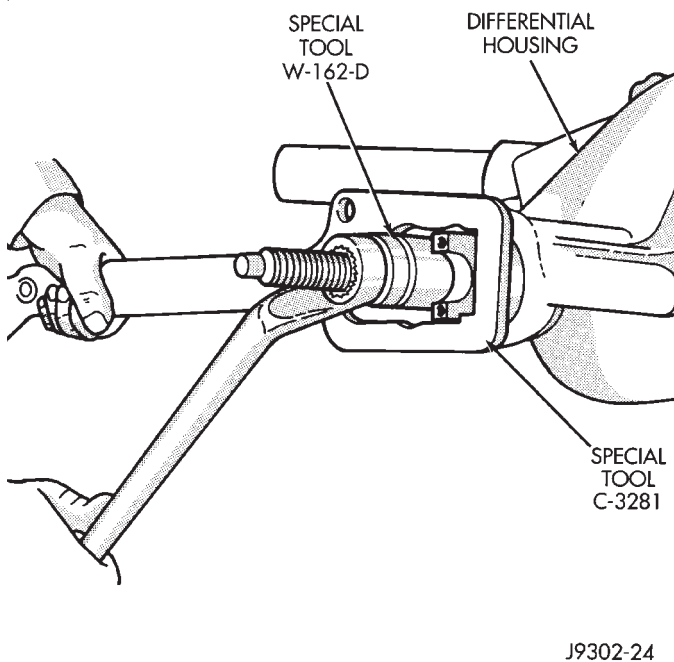

Fig. 30 Pinion Yoke Installation
- (6) Install yoke with Installer W-162-D and Wrench C-3281 (Fig. 30).
- (7) Install the yoke washer and a new nut on the pinion gear. **Tighten the nut only enough to remove the end play. Do not over-tighten it.**